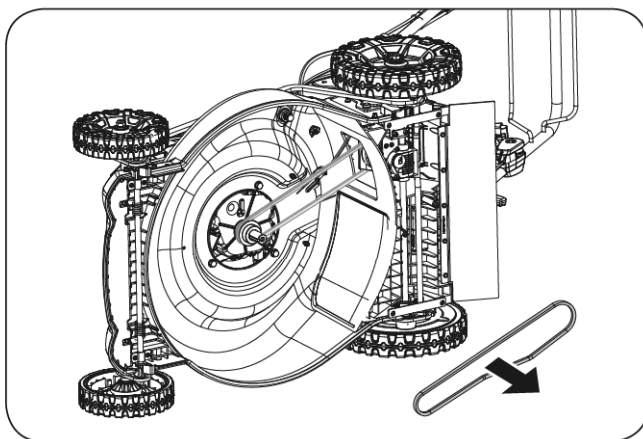

Figure 46
4. Remove the belt. (See **Figure 46**)